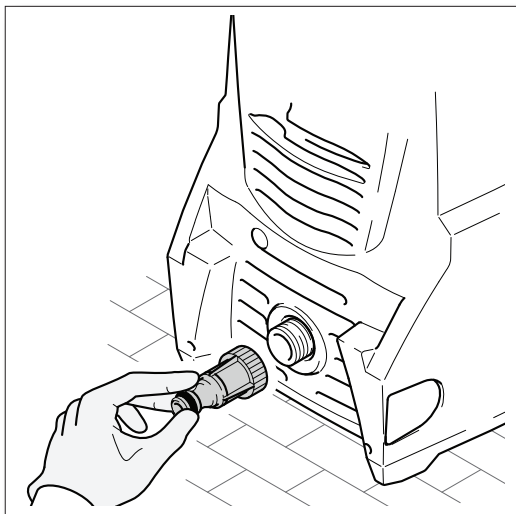
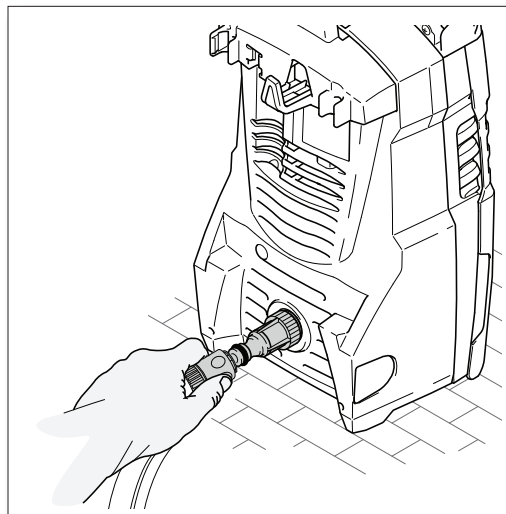

Fig. 15
Fig. 16
- First, remove the plastic shipping cover on the water inlet on the front of the power washer on the right side. Attach the clear quick connect filter to the power washer (**Fig. 15**) hand tight is fine. Slide the garden hose adapter collar onto the clear adapter (**Fig. 16**), it will “click” into place.